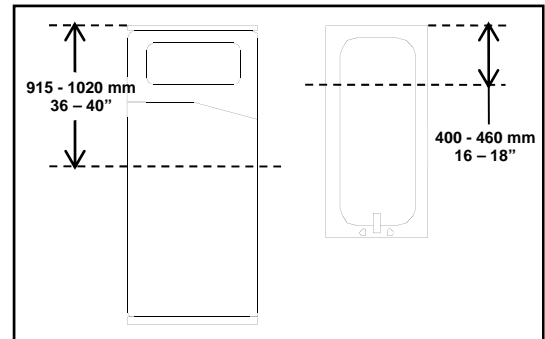

Figure 3
- ◆ Over a bed – approx. 915 – 1020 mm / 36-40 in. from the head of the bed (see Figure 3) :
- ◆ Over a tub – approx. 400 – 460 mm / 16-18 in. from the end of the tub (see Figure 3);